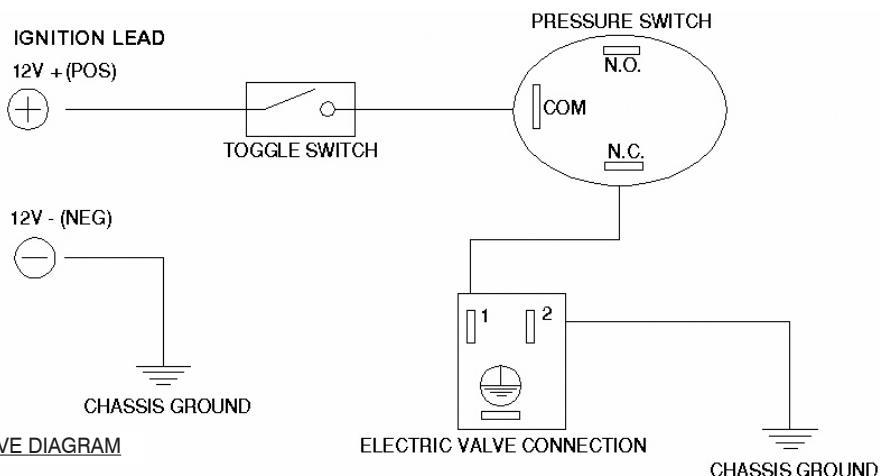

FIG. 5 - E.P.C. ELECTRIC VALVE DIAGRAM
- 3B. To install a **E.P.C. Electric Valve** run a 16-gauge multi-strand wire from the ignition lead to one side of the toggle switch. From the other side of the toggle switch run a wire to the COM terminal on the E.P.C. pressure switch. Run another wire from the N.C. terminal of the E.P.C. pressure switch to terminal #1 on the electric valve solenoid. Lastly, run a wire from terminal #2 on the solenoid to the chassis ground. The horizontal terminal marked ground on the solenoid is not used. SEE FIGURE 5 Note: To expose the terminals on the electric valve, the black plug will have to be unscrewed from the main valve. The plug assembly then needs to be unassembled by unclipping the plug casing from the body.